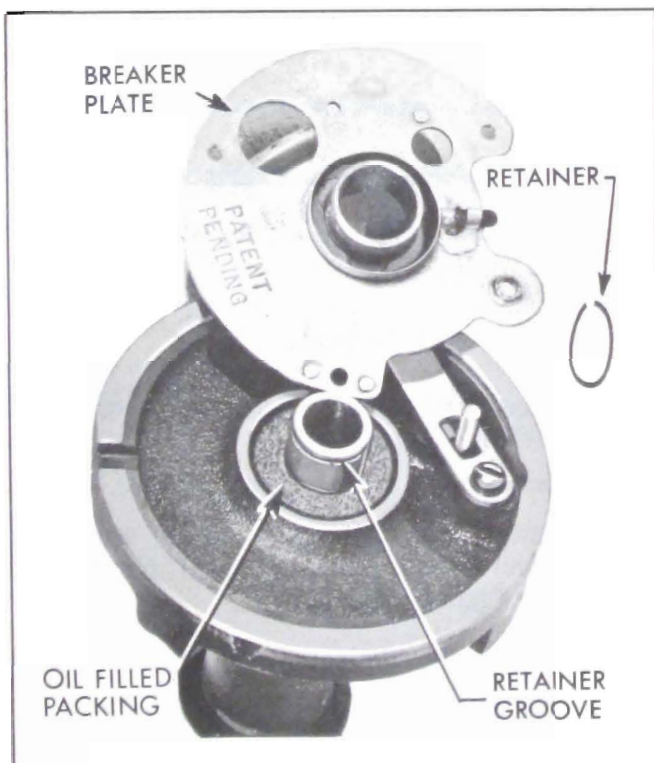

Figure 10-44—Installing Breaker Plate and Retainer
2. Install felt washer over upper bushing and apply a few drops of light oil. Then place breaker plate over upper bushing and vacuum advance link. Install retainer on upper bushing. See Figure 10-44.